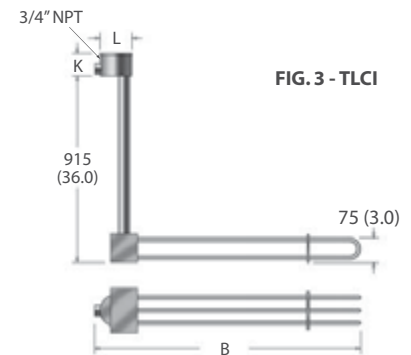

FIG. 3 - TLCLI
Over-The-Side Heaters - Figures 3 & 4
| KW | DIMENSIONS | | | | SHEATH MATERIAL | WATTS PER | | FIGURE 3 - TLCLC CAT. NO. | FIGURE 4 - TLCP CAT. NO. | NET WT. LBS (KG) |
| | B (FIG. 3) (mm) | B (FIG. 4) (in.) | B (FIG. 3) (mm) | B (FIG. 4) (in.) | | (W/cm ²) | (W/in. ²) | | | |